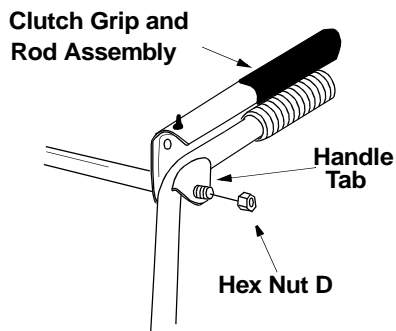

Figure 5
- Insert clutch grip and rod assembly into handle tabs. Clutch grips must sit on top of the handles. Thread hex nuts (D) on each end to hold into position. Do not tighten. See Figure 5.